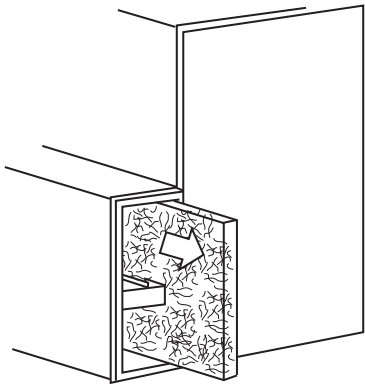

Fig. 22 - Removal of Filter from Side Blower Cabinet
- b. Slide air filter out of furnace. Keep dirty side up (if dirty) to avoid spilling dirt. See Fig. 22 and 23.